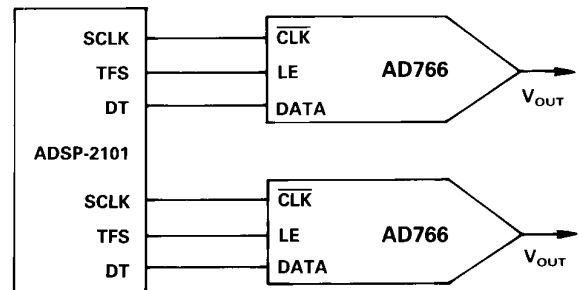

Figure 12. AD766 to ADSP-2101/ADSP-2102/ADSP-2105/ADSP-2111
The ADSP-2101 incorporates two complete serial ports which can be directly interfaced to the AD766 as shown in Figure 12. The SCLK, TFS and DT outputs of the ADSP-2101 are connected directly to the CLK, LE and DATA inputs of the AD766, respectively. SCLK is internally generated and can be programmed to operate from 94 Hz to 6.25 MHz. Data (DT) is valid on the falling edge of SCLK. After 16 bits have been transmitted, the falling edge of TFS updates the AD766's data latch. Using both serial ports of the ADSP-2101, two AD766's can be directly interfaced with no additional hardware.